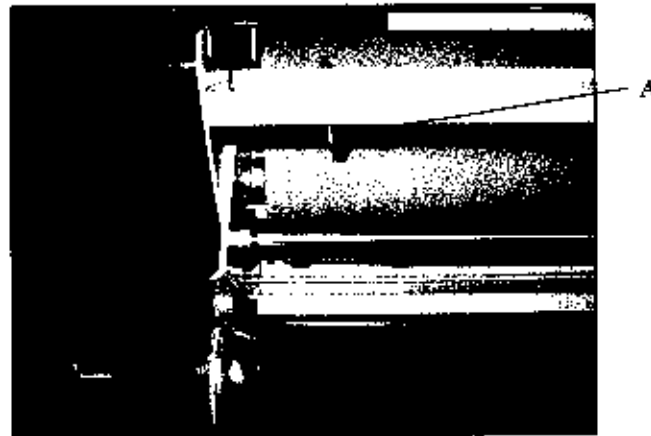

Fig. 6-5. Table Interlock Latch
The feed table should not be removed except to install films. When the table is off, the laminator runs at a fixed speed of 3 fpm (0,9 m). Refer to Fig. 6-5 for the following instructions.
A. Table Interlock Latch (Figure 6-5)